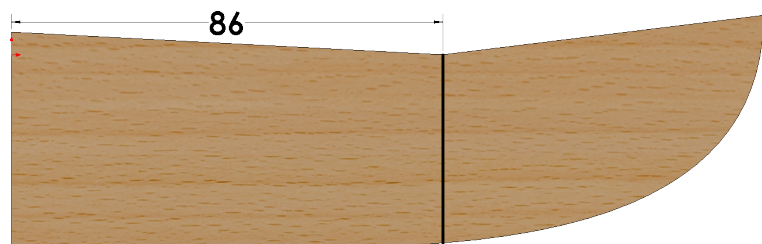

Fig. 20
- Step 5. Click **Smart Dimension**  (S) on the Sketch toolbar.
- Step 6. Add **86** dimension as shown in **Fig. 20**.